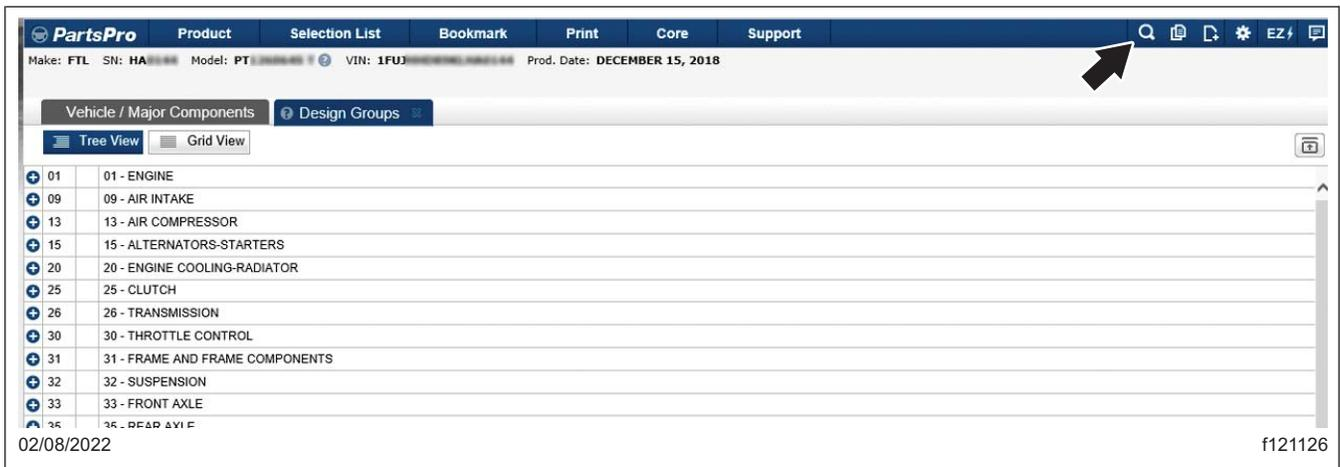

Fig. 2, Locating the Search Tool
- The 'Design Groups' page will be displayed. Locate the 'Search' button on the upper right side of the tool bar, then select the button. See Fig. 2.